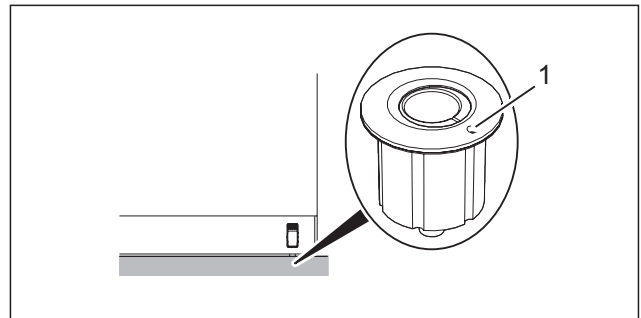

Fig. 47 Loosening the floor strikes
- Loose and remove all floor strikes (Fig. 47/1).